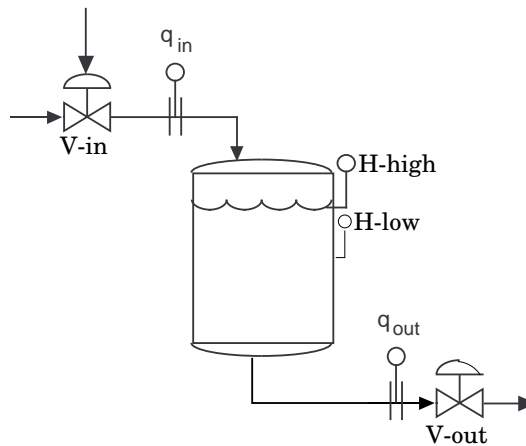

Figure 5: The buffer tank in Problem 7.
7. An on-off controller is used to control a buffer tank. The buffer tank is shown in Figure 5.